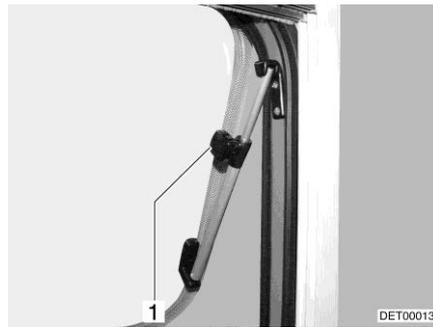

Fig. 95 Hinged window with rotary hinge
- Hinged window with rotary hinge: Open the hinged window until the required position has been reached and use knurled knob (Fig. 95,1) to secure in position.
- Hinged window with rotary hinge: Turn knurled knob (Fig. 95,1) until the latch is released.